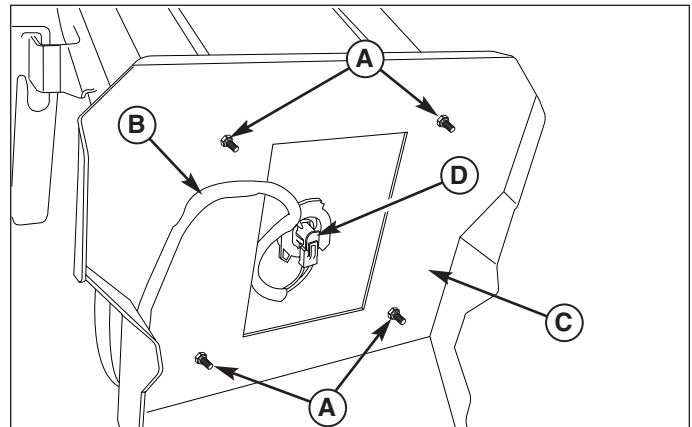

Figure 4. Remove The Existing Seat
2. Install the seat onto the seat mount plate (C, Figure 4) and secure with the 5/16-18 nylock flange nuts (A).
3. Connect the wire harness (B) to the seat switch (D) that is located in the bottom of the seat.